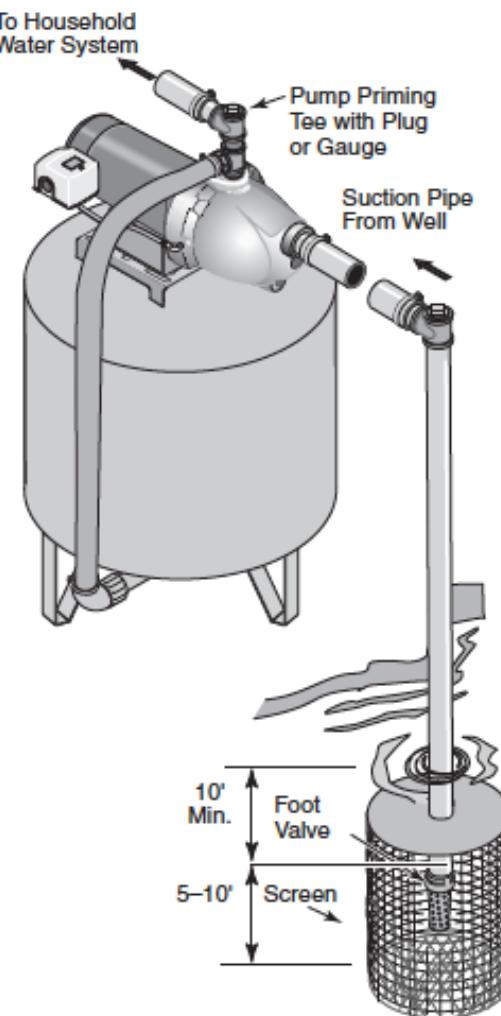

Figure 3: Surface Water Installation
2. Assemble a foot valve and suction pipe (Figure 3). Make sure that the foot valve works freely. Use PTFE pipe thread sealant tape on threaded pipe joints. Protect the foot valve assembly from fish, trash, etc, by installing a screen around it.
4. Install a priming tee, priming plug, and suction pipe to the pump (Figure 3). Support the pipe so that there are no dips or sags in the pipe, so it doesn't strain the pump body, and so that it slopes slightly upward from the well to the pump (high spots can cause air pockets which can air lock the pump).